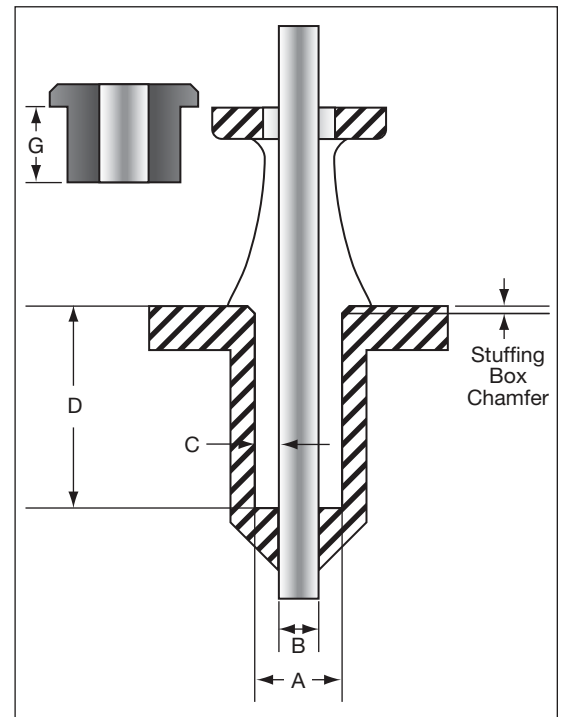
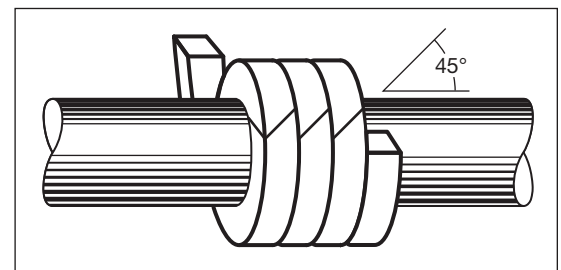

Figure 1
Figure 2
2. Determine the packing Cross-section: $C = [A - B] \div 2$ (Figure 1).
3. Measure the following equipment dimensions: **D** = Stuffing Box Depth; **G** = Gland Nose Length (Figure 1).
- a. Wrap packing around a mandrel (of same diameter, B, from Figure 1); mark one ring; remove packing from mandrel and cut at 45° (Figure 2).